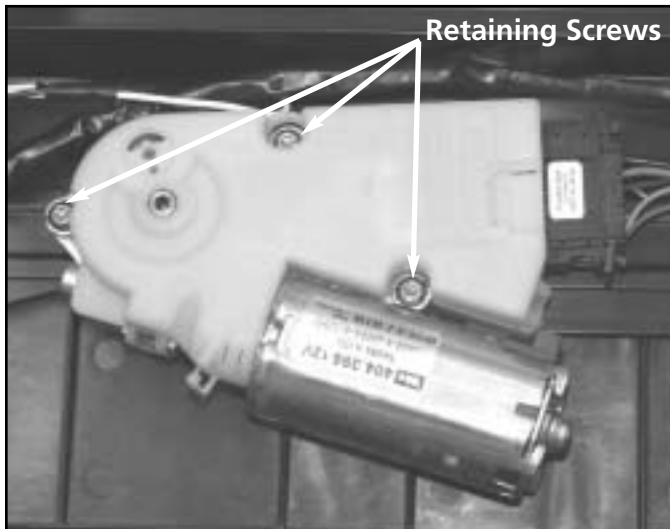

Figure S-22
4. After diagnosing the faulty drive assembly, remove the three (3) motor retaining screws. See figure S-22.
9. Install and fasten the three (3) drive assembly retaining screws. See figure S-22.